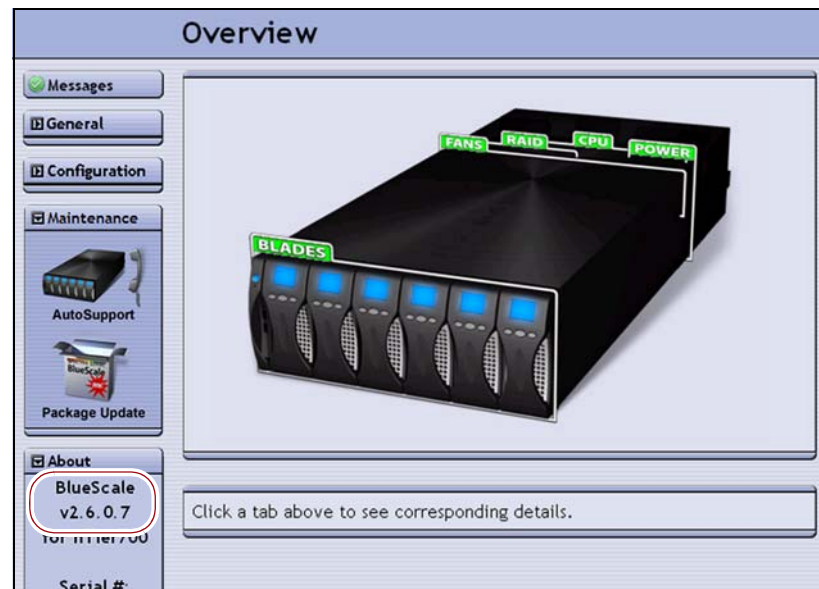

Figure 21 The current BlueScale version on the About menu.
2. Select **About** to display information about the version of the firmware package currently installed on the nTier700 (circled in Figure 21).